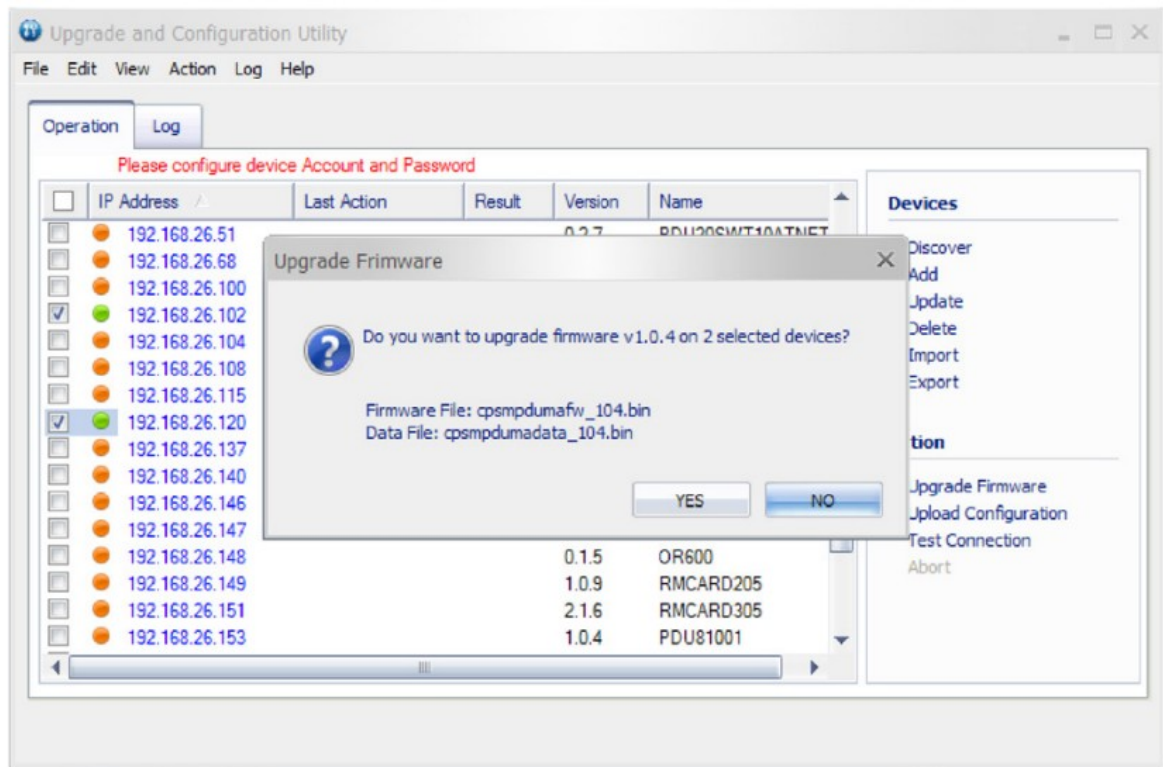

Figure 5
8. Click OK in the Upgrade Firmware confirmation window (Shown in Figure 5).